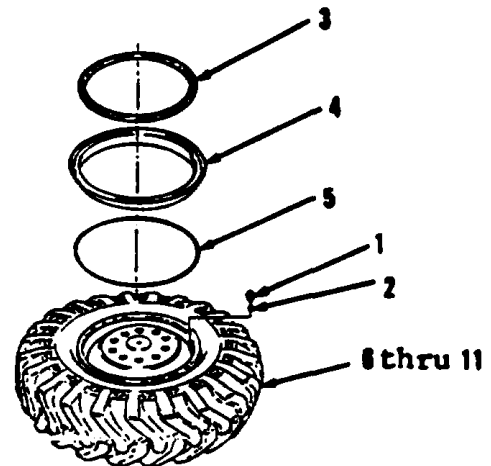

Figure 7-1.
1. Remove valve cap (1, Figure 7-1) and exhaust air from tire.
2. Using pneumatic tire valve repair tool, remove valve core (2).
3. Using a hammer and pry bars, remove lock ring (3).
5. Using pry bars, remove flange (4).
6. Remove and discard preformed packing (5).